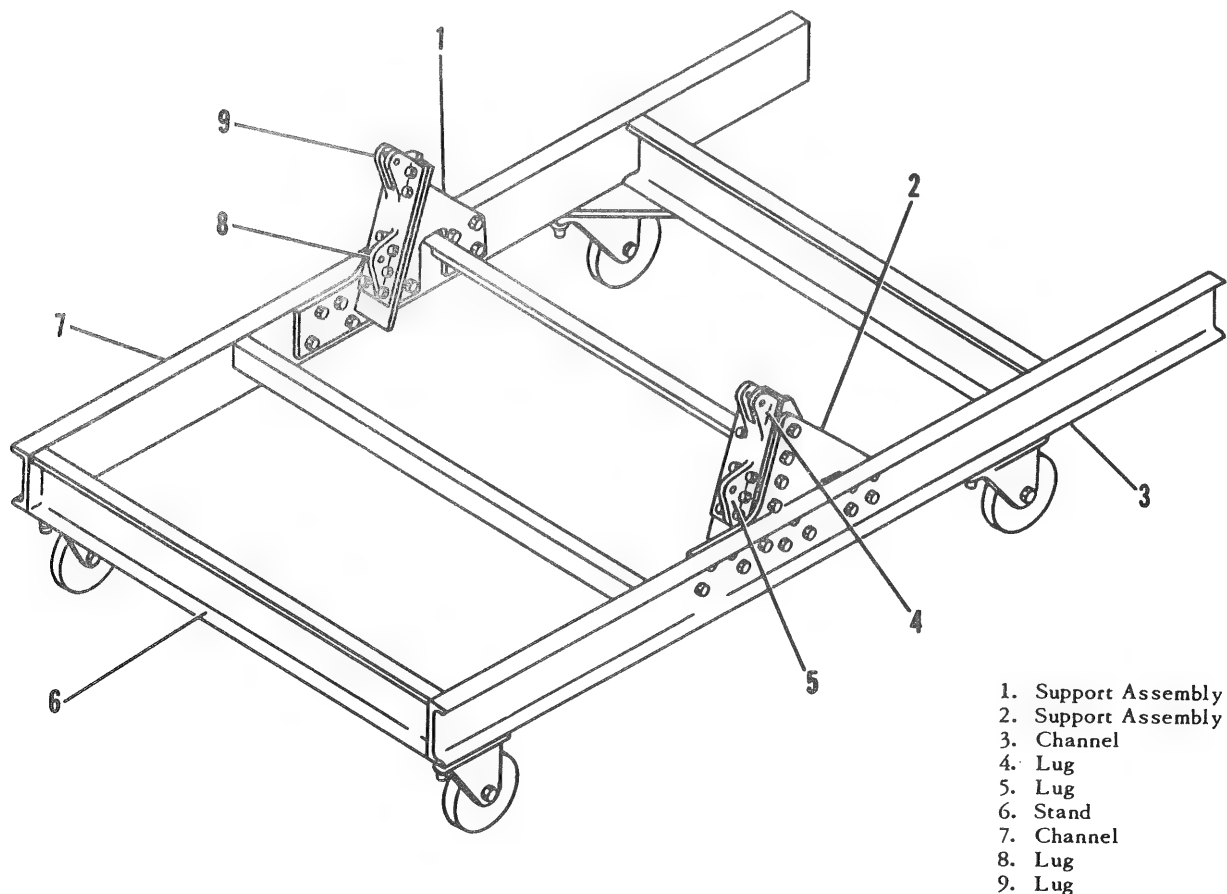

Figure 3-30. Engine Buildup Stand
3-95. DESCRIPTION. (See figure 3-30.) The engine buildup stand is used to support the engine during buildup. The engine buildup stand consists of support assemblies (1 and 2) secured to the side channels (3 and 7).
d. Wheel the engine buildup stand into position under engine. Align engine support arms (14 and 19, figure 3-28) with support assemblies (1 and 2, figure 3-30) of engine buildup stand.
e. Adjust turnbuckles (2 and 7, figure 3-7) to assist in aligning the support assemblies (1 and 2, figure 3-30) to support arms (14 and 19, figure 3-28).
f. Install eyebolts (23) through holes in long end of support arms and through lower holes in support assemblies (1 and 2, figure 3-30). Install bolt, washer, and nut in upper holes of support arms (14 and 19, figure 3-28) and upper holes in support assemblies (1 and 2, figure 3-30).